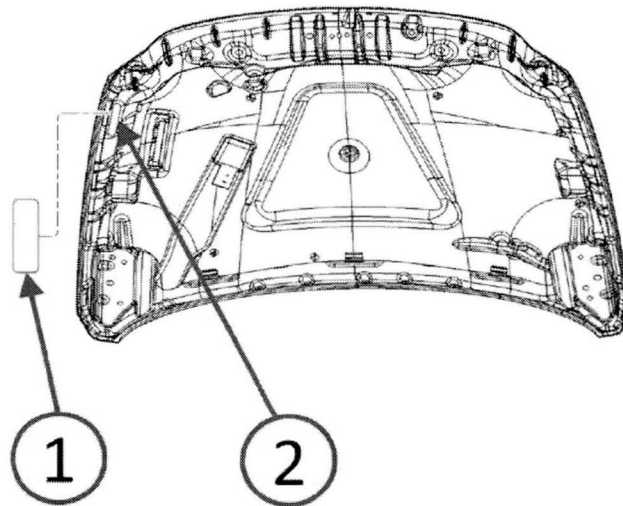

Fig. 2 VECI Label Location
5. Clean entire label area (2) with isopropyl alcohol and allow to dry (Fig. 2).
6. Ensure the information printed on the replacement label (1) reflects the equipment content of the vehicle it is being placed on (Fig. 2).
- a. (DD) 3500 Cab Chassis with sales codes (ETK) plus (TTV) or (TV2) or (TV3), install label following instructions below.
- b. (DP) 4500/5500 Cab Chassis with sales codes (ETK) plus (TUV) or (TUY), install label following instructions below.
- c. (DP) 4500/5500 Cab Chassis with sales codes (ETK) and (TUZ), install label following instructions below.
- 7. Position replacement label (1) as near as possible to the original label location (2) (Fig. 2).